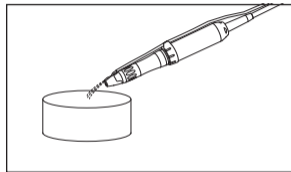

Fig. 9
4) Operate the handpiece while running clean water into the irrigation nozzle via the irrigation tube, for at least 20 seconds to remove fluids in the handpiece (Fig. 9). When operating the handpiece, turn the Bur Lock Ring in the CLOSE position.